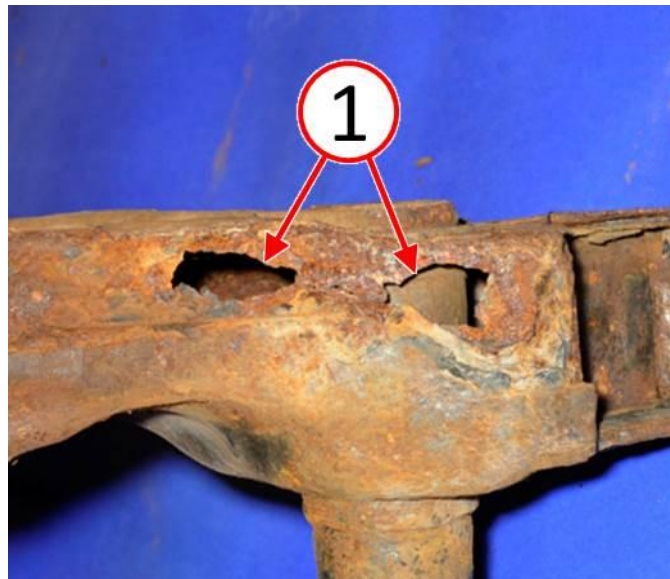

Fig. 1 Crossmember Needing Replacement
2. Inspect the front and rear crossmembers for perforation/rust through (Fig. 1). Was perforation/rust through found on either the front or rear crossmember(s)?